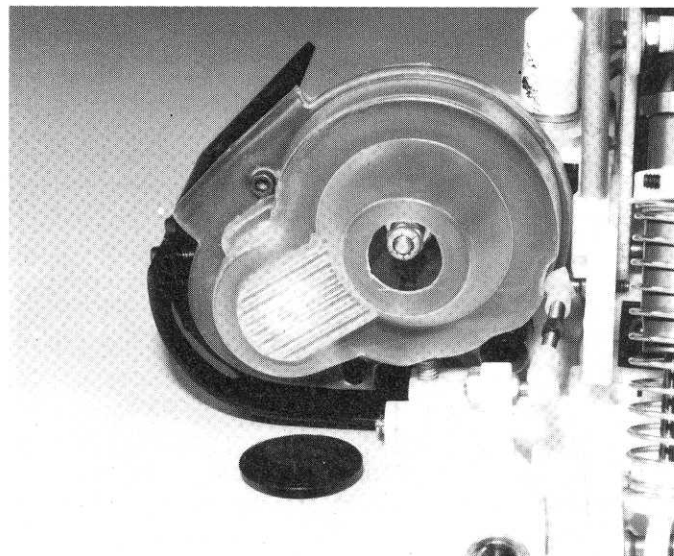

Fig. 120
□ **Fig. 120** Reinstall the dust cover.